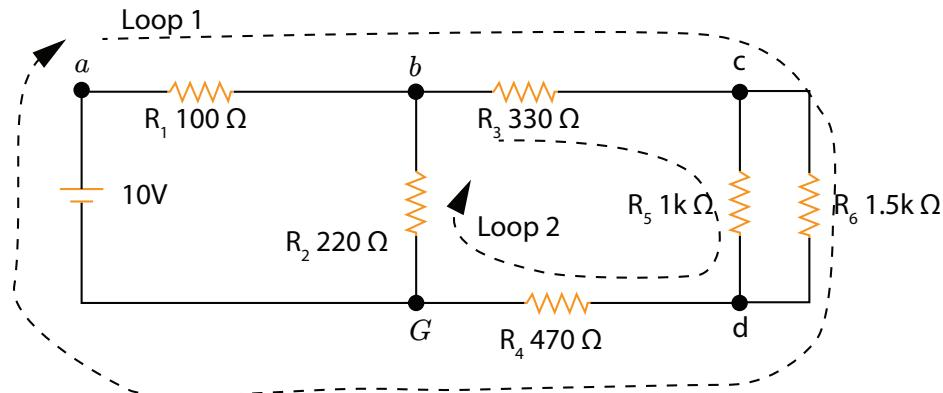

Figure 3.5.1: Loops 1 and 2 for applying KVL.
10. Write Kirchhoff's voltage law for loops 1 and 2 as shown in Figure 3.5.1 (in the clockwise direction) and verify that it is correct using the measured voltage values.